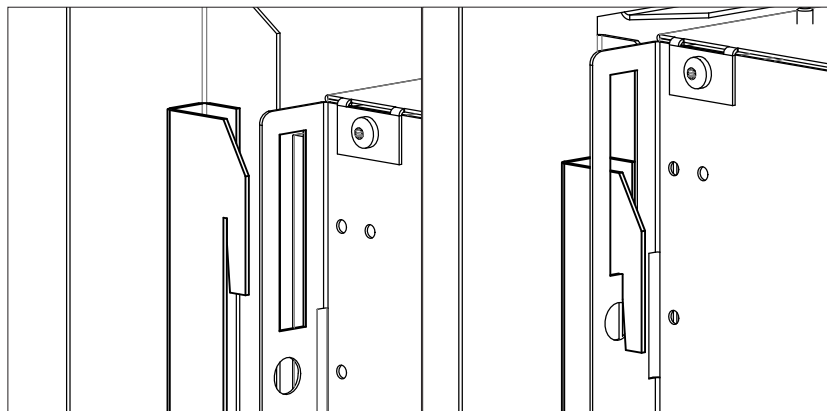

Figure 44: Hook and Tab Close-Up.
2. Align the hooks with their respective tabs (Figure 44), push the surround toward the fireplace and slide the surround down into place (Figure 44).